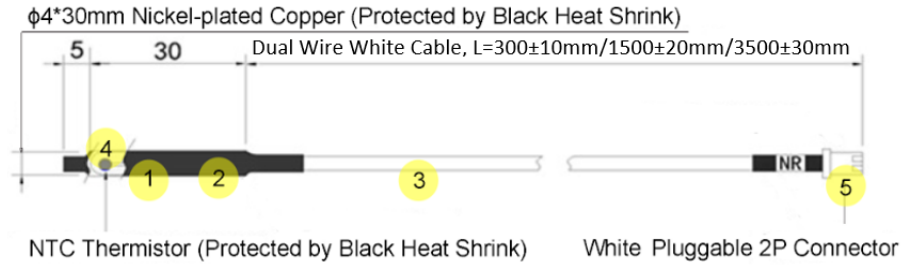

Figure 2-11 NTC-1041, 0.3/NTC-1041, 1.5/NTC-1041, 3.5 Dimensions
3. Align the top of the mounting channel at the back of the PMC-352-C at an angle against the top of the DIN Rail as shown in Figure 2-11 right.